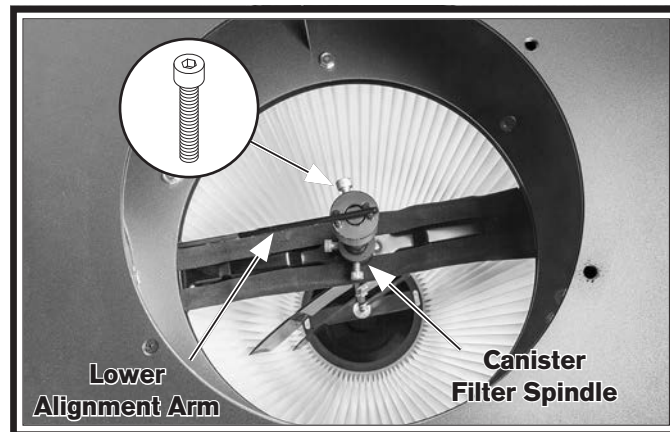

Figure 22. Lower alignment arm attached to canister filter spindle.
27. Attach lower alignment arm to top of canister filter spindle and secure with M6-1 x 16 cap screw (see **Figure 22**).